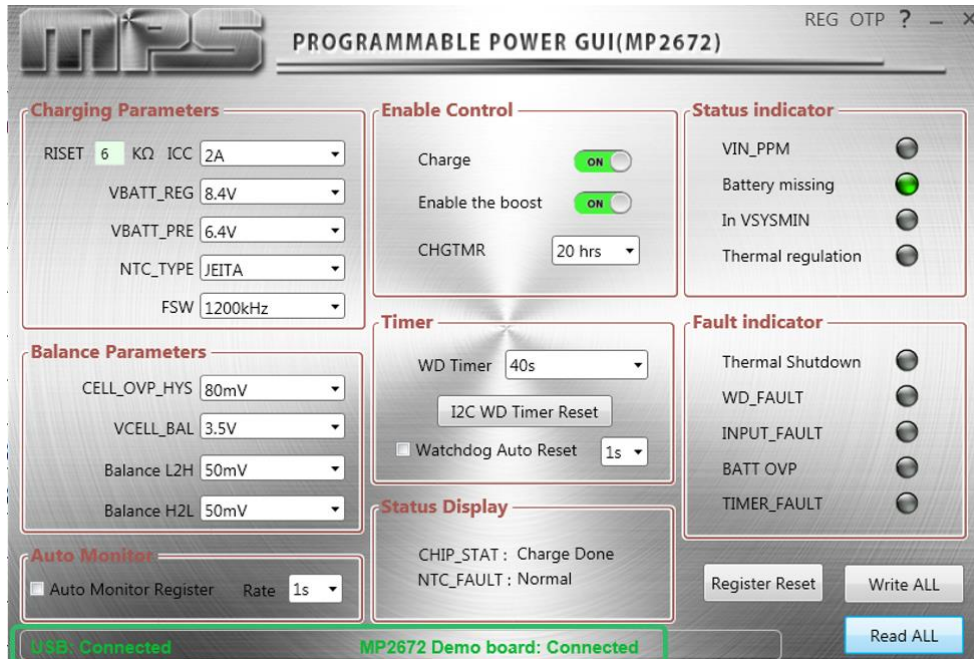

Figure 7: EVKT-USB²C-02 and MP2672 Demo Board Show as Connected
- If the connection is successful, both the EVKT-USBI2C-02 and MP2672 Demo Board statuses will show as "Connected" (see Figure 7).
- 2. Click the “Read All Registers” button to read the I²C register values. The default values are displayed (see Figure 7).